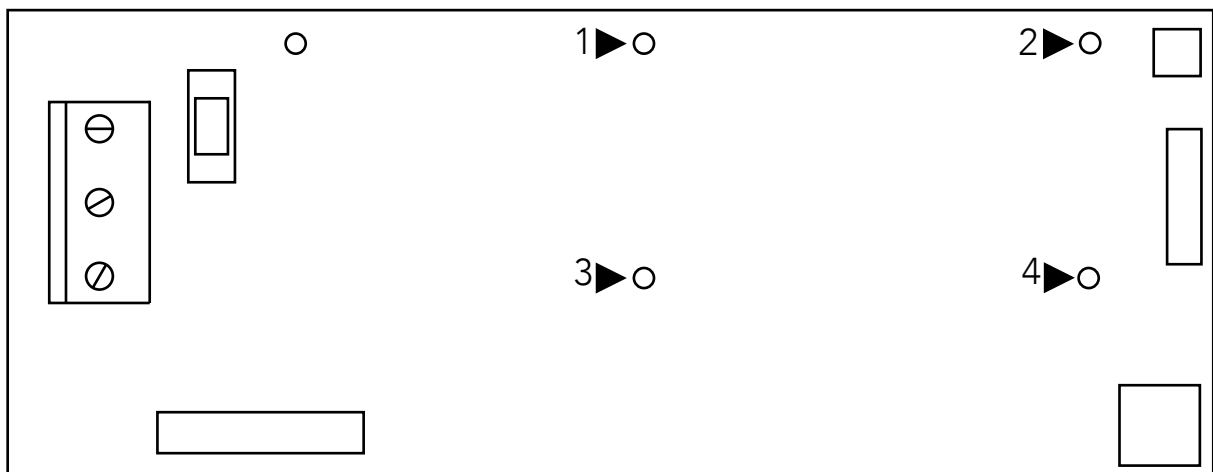

FIGURE 16 : MAIN POWER PCB
- 7 Remove the 4 pan head screws & washers identified by the black triangles (see fig.16 below).
- 5 Tighten up these screws in the order shown fig.16. It is important to ensure that the PCB assembly is tight on the pipework.